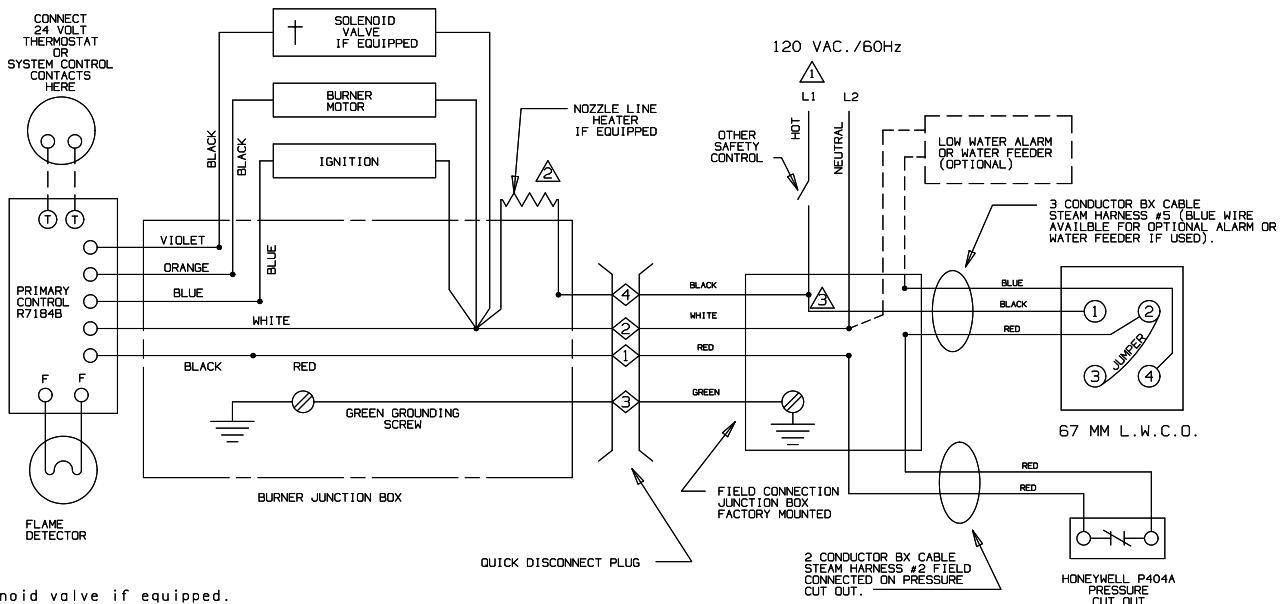

Figure 16: Wiring at module
When the building thermostat calls for heat, contacts (RC) of the R8285B control closes. This energizes the coils of R1 and R2 relays. With these contacts closed, all the modules are energized to fire. This will bring the system pressure up quickly. The P404A pressure controls on each module (not shown in diagram, see figure. 16) are set to